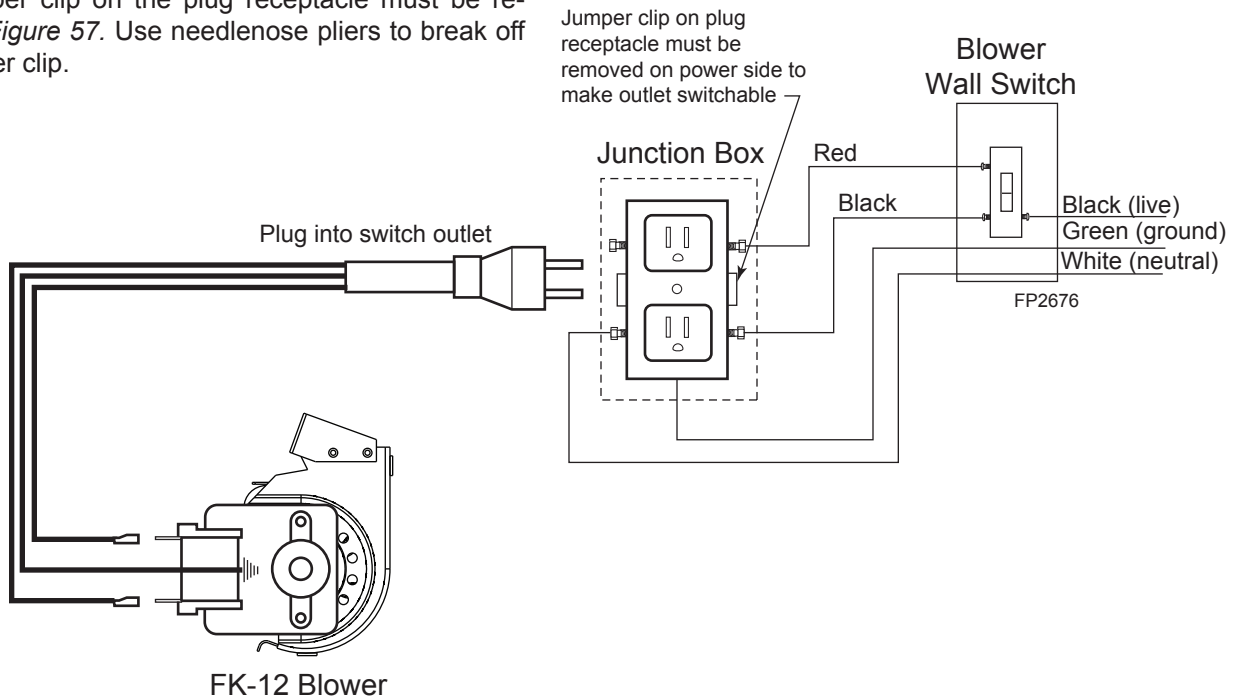

Figure 57 - FK-12 Blower wiring Diagram
3. The jumper clip on the plug receptacle must be removed. *Figure 57.* Use needle-nose pliers to break off the jumper clip.